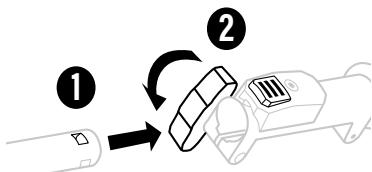

Fig. 3B
3. Align the installation hole on the attachment shaft with the arrow on the powerhead shaft and push the attachment shaft into the powerhead shaft until you hear a "click" sound, which means that the attachment shaft is mounted into place (Fig. 3B, 1).
5. Tighten the wing knob firmly. (Fig. 3B, 2)